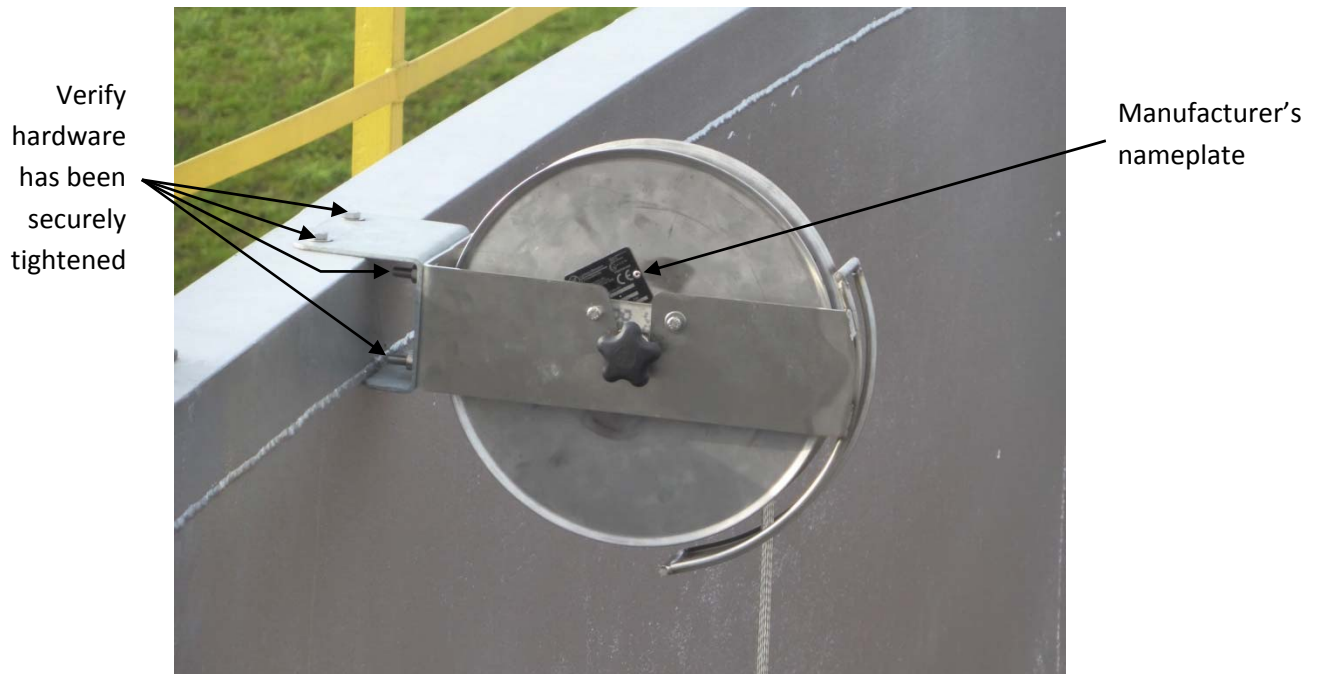

Figure 2: Secure reel attachment to the tank
3.1.2 As shown below in Figure 2, verify that all nuts and bolts fastening the RGA reel to mount and RGA mount or horizontal bracket to tank rim/wall have been securely tightened.